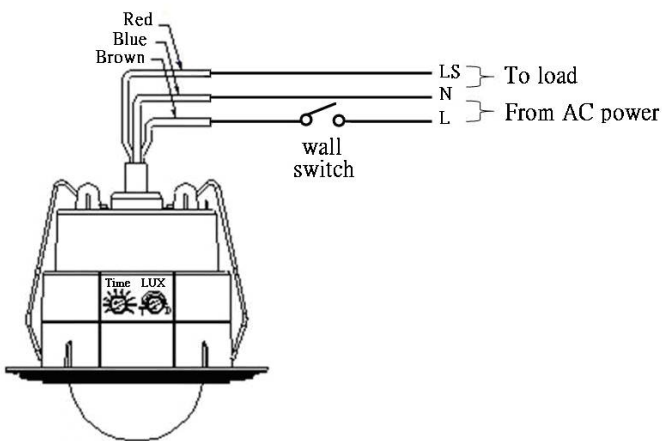

FIGURE 4
Install an external wall switch adjacent to the power source (FIGURE 4). This helps you operate the light with ease. See OPERATION for further information.
- (1) Switch off the power source or wall switch.
- (2) The connection of all power cords is at your disposal. The power cord of “LS” and “N” mark is to be connected to any light fixture you have. (FIGURE 4)